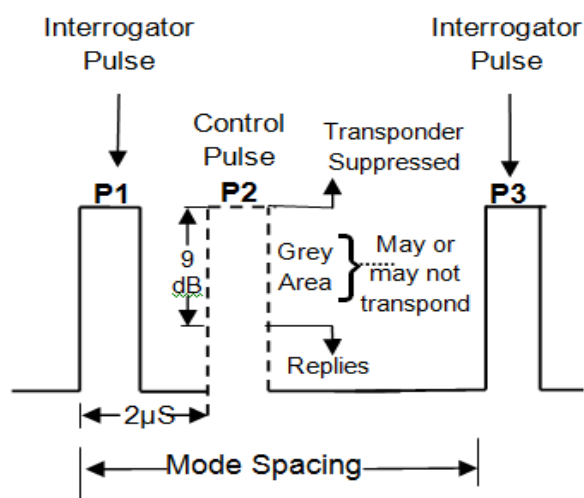

Figure 9 - 3 Pulse Side lobe Suppression pulse spacing
32. It is thus necessary to suppress any interrogator sidelobes which would be capable of triggering responses and the 3-pulse sidelobe suppression system has been adopted as the international standard technique. Each interrogation consists of a group of three pulses denoted P1, P2, and P3. The spacing of the pulses is shown in Fig 9; P2, known as the control pulse, is spaced at a constant 2 μ s from P1, and the spacing between P1 and P3, the interrogation pulses, is according to the mode as listed in Table 1. The interrogation pulses P1 and P3 are transmitted from a rotating interrogator aerial, and the interrogation pulse P2 is transmitted from the control aerial, producing radiation patterns as shown in Fig 9. The interrogator aerial produces a high-power, narrow beam with lower-power sidelobes. The control aerial radiates an omnidirectional signal which is modified to produce a radiation pattern trough in the direction of propagation.
33. By comparing the relative amplitudes of the control and interrogator pulses, the transponder determines whether the interrogation is a correct, main lobe one, or due to a Sidelobe. P1 and P3 amplitudes are greater than a P2 amplitude only (Fig 9) for a correct main lobe interrogation and the transponder will then reply; if P2 is greater than P1 and P3 the transponder is suppressed. The discrimination levels are indicated on Fig 9 which shows that there is a 'grey area' where the transponder may or may not reply.